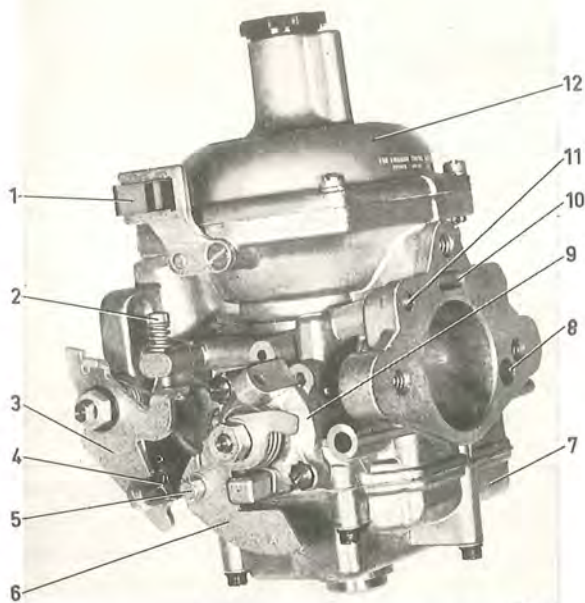
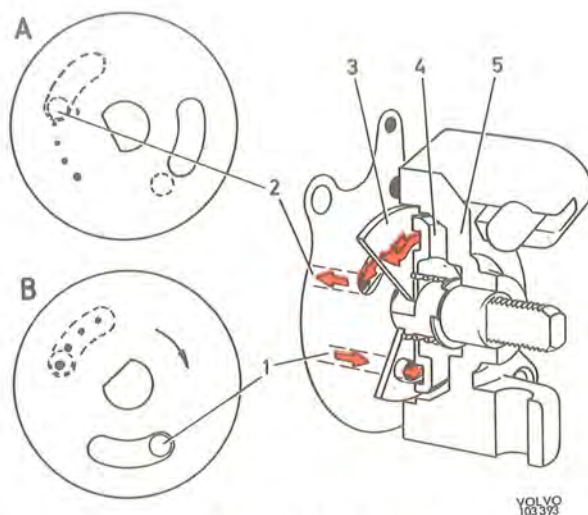

Fig. 2-50. Carburettor, rear, from the left
Fig. 2-53. Cold start device
To facilitate starting during cold weather, the rear carburettor is fitted with a cold start device (Figs. 2-50, 2-53 and 2-54).
The cold start device consists of a valve disc (3, Fig. 2-53) which is provided with four calibrated holes and an elongated opening as well as a disc (4) mounted on a spindle which is operated by the choke control. On the same spindle, outside the cover (5), there is a cam disc (6, Fig. 2-50) with connection for the choke control pull wire. When the cold start device is engaged, the valve disc turns and this links up the channel (1, Fig. 2-53) from the floatchamber via one or several of the calibrated holes to the channel behind the valve disc and then the opening to the channel (2), which terminates in the venturi between the vacuum plunger and choke flap. Through this link-up, the engine receives extra fuel (a richer mixture), to facilitate cold starting. At the same time, less air is supplied by means of the choke device. When the choke control is pushed in, the valve disc turns and closes the inlet to the channel. At the same time as the cam disc is operated, the throttle flap opening is also influenced in such a way that turning the cam disc opens the throttle through the fast idle stop screw (4, Fig. 2-50) and the lever, before any of